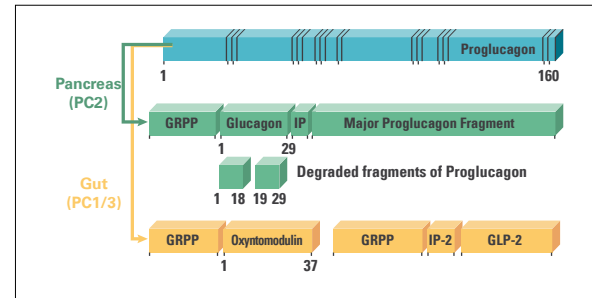

Figure 18 Tissue-specific processing of proglucagon by PC2 and PC1/3
- Glucagon is produced from proglucagon by tissue-specific processing, mediated by the prohormone convertases (PC). As shown in Figure 18, tissue specific degradation of proglucagon leads to the release of a number peptides that may interfere with the detection of glucagon itself.